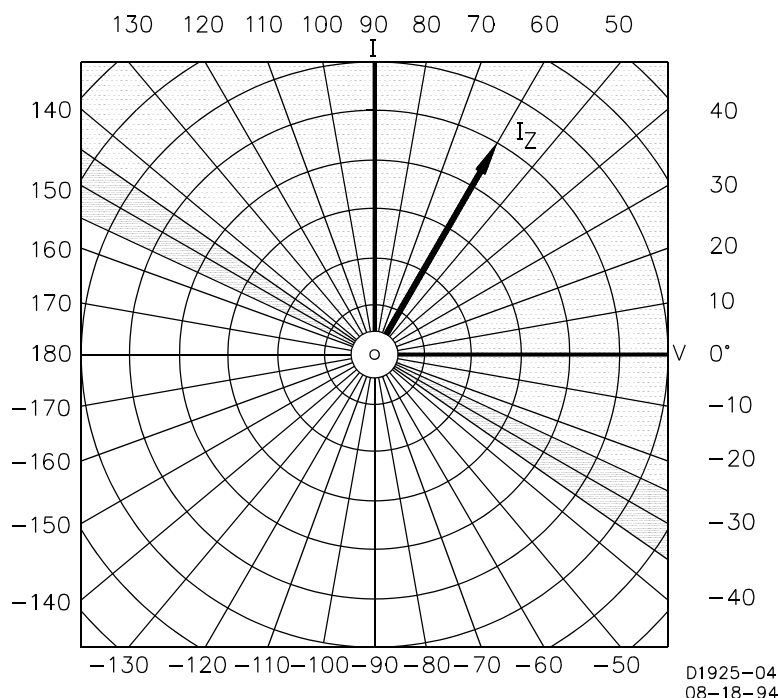

Figure 5-8.  $\alpha = 30^\circ$
- Step 5. Vary the phase angle of the input current through  $360^\circ$  and record the phase angles at which the INHIBIT LED is OFF. When shown on a polar plot, the result should be a straight line (through the origin ) from  $-30^\circ$  to  $+150^\circ \pm 5^\circ$ . This plot defines the trip region as shown in Figure 5-8.